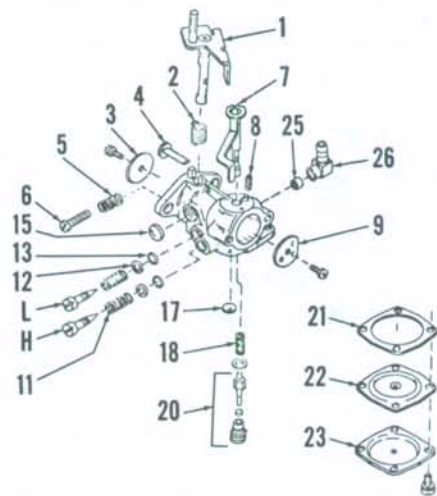
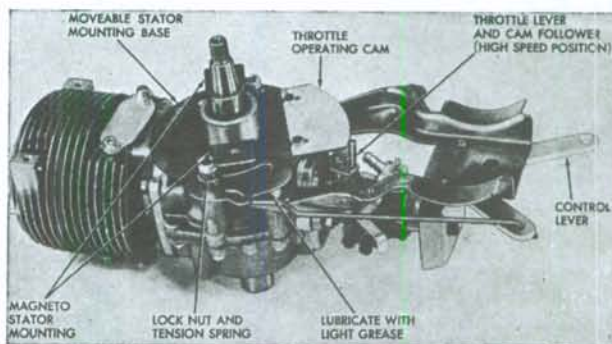

Fig. T1-2 — Exploded view of typical Tecumseh diaphragm carburetor. Gravity feed models will not have parts (4, 25 & 26).
Fig. T1-10—On some models, ignition timing is adjustable and synchronized with throttle as shown.
TECUMSEH DIAPHRAGM CARBURETOR: Clockwise rotation of idle mixture needle (L—Fig. T1-2) and high speed mixture needle (H) leans the fuel mixture. Initial setting is approximately 1 turn open for both needles. Start and run motor until it reaches operating temperature, then adjust mixture to provide smoothest operation in gear. The high speed mixture needle (H) should be adjusted first. Idle mixture needle (L) should be set rich enough to provide smooth acceleration from idle to high speed. Use caution when setting needles to prevent mixture from being too lean and causing engine damage.
When assembling, observe the following: If check valve (25—Fig. T1-2) was removed, press valve into carburetor body until face of valve is flush with surrounding base of fuel inlet chamber. On all models, press inlet fitting (26) about 1/3 of the way into carburetor body, coat the exposed 2/3 of fitting shoulder with Grade 'A' Loctite, then press fitting fully into carburetor body.
SYNCHRONIZED MODELS. On most models, the ignition timing is advanced by the speed control lever as shown in Fig. T1-10; and throttle lever is operated by a synchronizing cam attached to magneto stator mounting plate. To synchronize the throttle, first make sure that magneto is correctly installed and points adjusted as outlined in IGNITION paragraphs. Move speed control lever to "FAST" position. Loosen the two screws retaining synchronizing cam to stator mounting plate, move throttle lever to wide-open position, and slide the cam on mounting screws until edge of cam is firmly in contact with cam follower on throttle arm. Tighten the cam retaining screws and move speed control lever to "SLOW" position. With lever in "SLOW" position the carburetor throttle lever should contact the stop screw (6—Fig. T1-2, T1-5 or T1-6) and synchronizing cam should contact cam follower on throttle arm. Make minor adjustments as necessary so that synchronizing cam is in contact with cam follower throughout speed range, and so that carburetor throttle valve fully opens and fully closes at the two extremes of speed range setting.